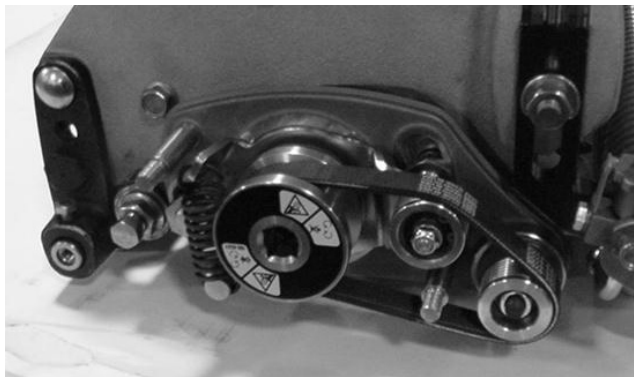

Figure 34
2. Remove the belt from driver pulley, idler pulley and driven pulley (Fig. 34).